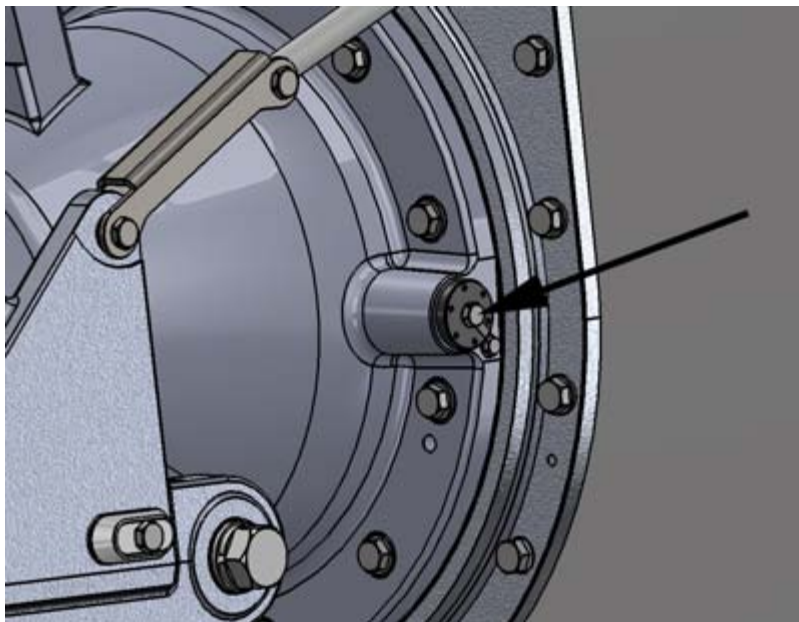
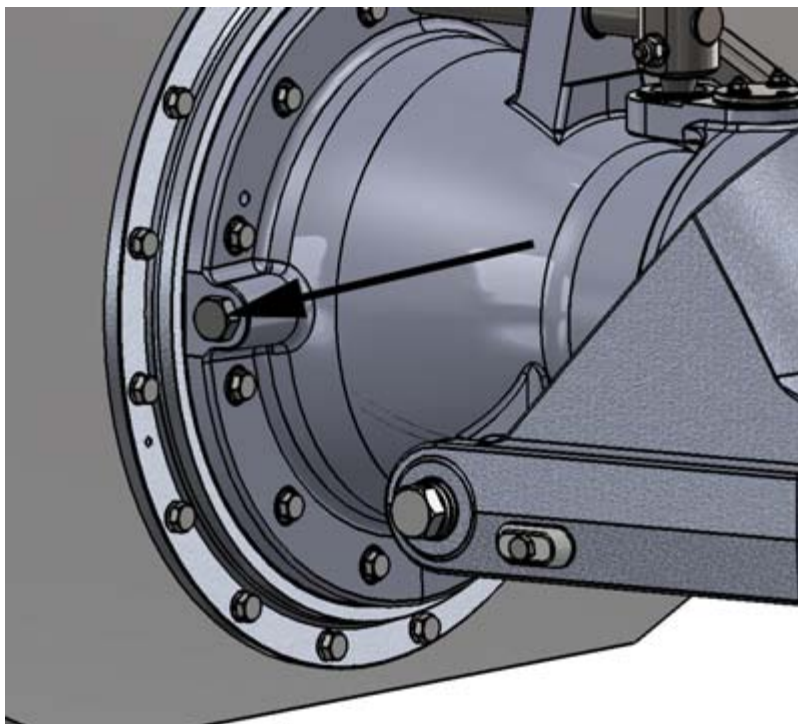

Figure 23. Stator anode
Figure 24. Stator screw
9. Install the anode and plug (figure 23) and the screw on the opposite side (figure 24) back onto the stator body.